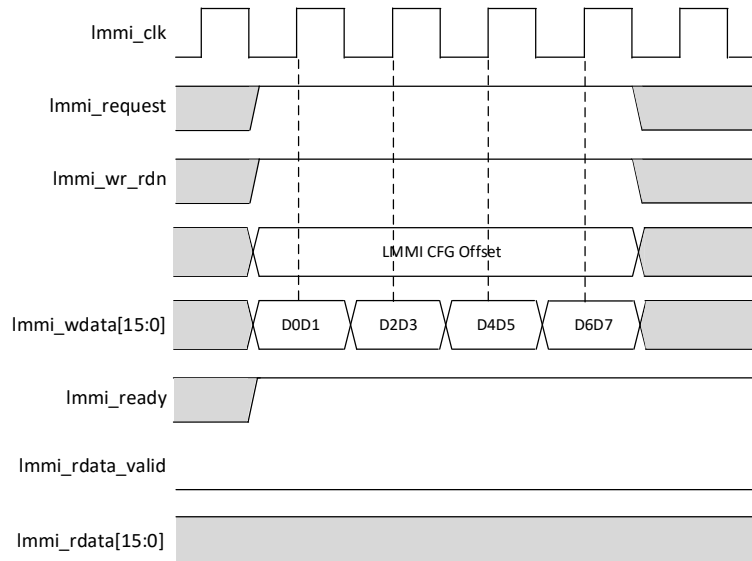
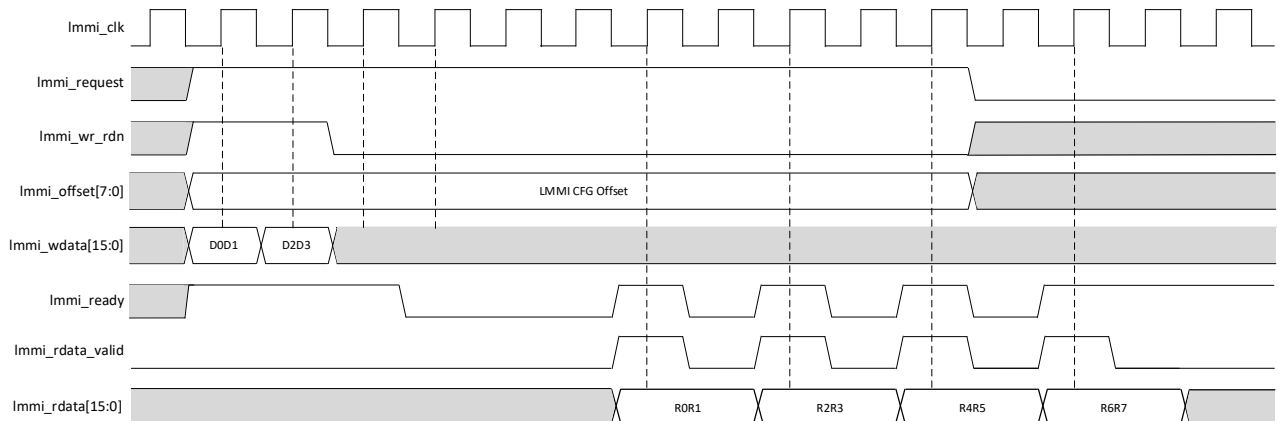

Figure D.3. Waveform for LMMI Write Operation in 16-Bit Mode
Figure D.4. Waveform for LMMI Read Operation
To execute the target configuration command, the LMMI host should perform four back-to-back write transfers for the four command bytes, followed by the optional data bytes. The typical LMMI write and read operations are illustrated in Figure D.3 and Figure D.4.
- Updated Figure D.3. Waveform for LMMI Write Operation in 16-Bit Mode title. - In Table D.3. CONFIG_LMMIC Supported Commands: - Added commands MSPI_BRIDGE and MSPI_BRIDGE_CLOCK. - Removed commands PORT_REQUEST and PORT_STATUS_READ. - Added note regarding PORT_REQUEST and PORT_STATUS_READ. - Minor editorial changes.